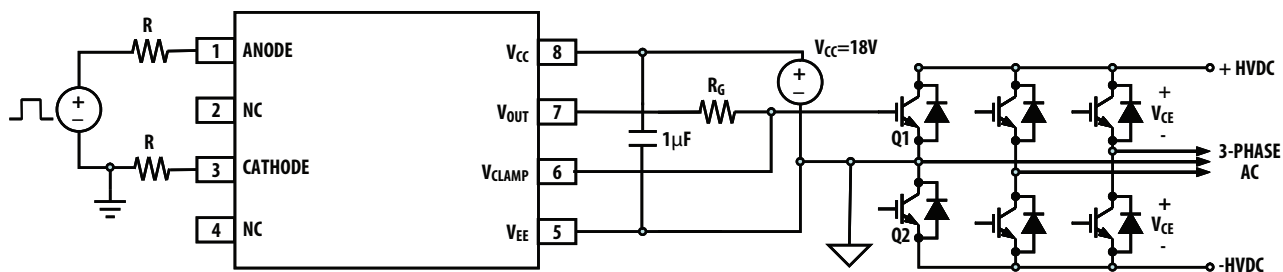

Figure 33. Recommended application circuit with split resistors LED drive and active Miller Clamp.
The recommended application circuit shown in Figure 33 illustrates a typical gate drive implementation using the ACPL-H342. The following describes about driving IGBT. However, it is also applicable to MOSFET. Designers will need to adjust the V_{CC} supply voltage, depending on the MOSFET or IGBT gate threshold requirements (Recommended $V_{CC} = 18V$ for IGBT and $12V$ for MOSFET).
Step 1: Calculate Rg minimum from the IOL peak specification. The IGBT and Rg in Figure 33 can be analyzed as a simple RC circuit with a voltage supplied by ACPL-H342/K342.